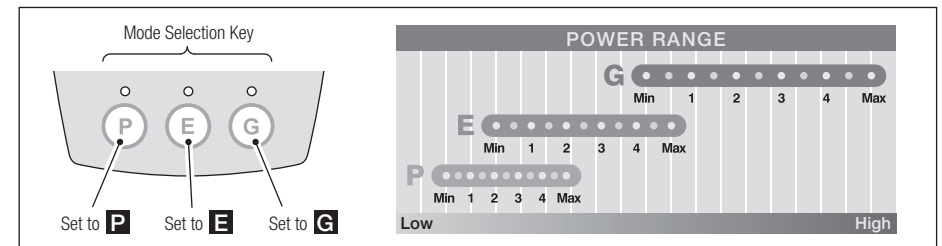

Fig. 17
- 1) Select the Operating Mode with the Mode Selection Keys on the Front Panel. The light over the selected mode will illuminate. (Fig. 17)